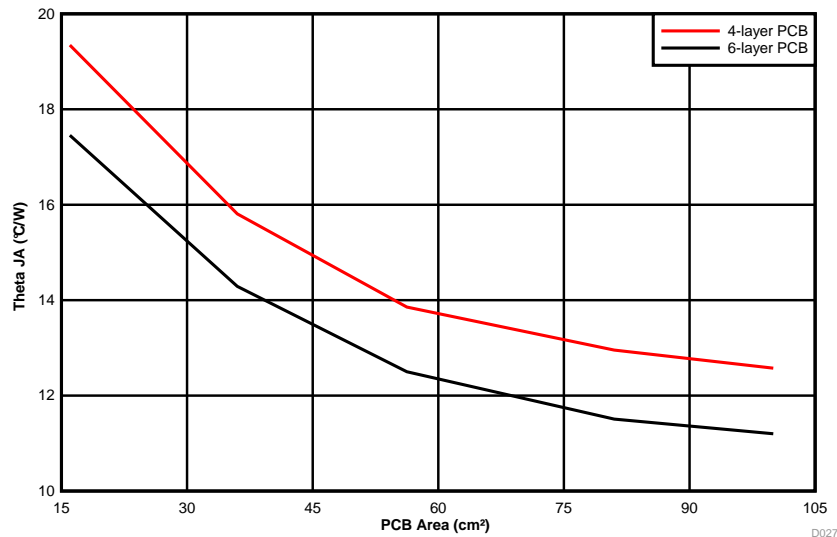

图 52. θ_{JA} vs PCB Area
The amount of PCB copper effects the thermal performance of the device. 图 52 shows the effects of copper area on the junction-to-ambient thermal resistance ($R_{\theta JA}$) of the LMZM33606. The junction-to-ambient thermal resistance is plotted for a 4-layer PCB and a 6-layer PCB with PCB area from 16 cm² to 100 cm².
3. Reference 图 52 to determine the minimum required PCB area for the application conditions.